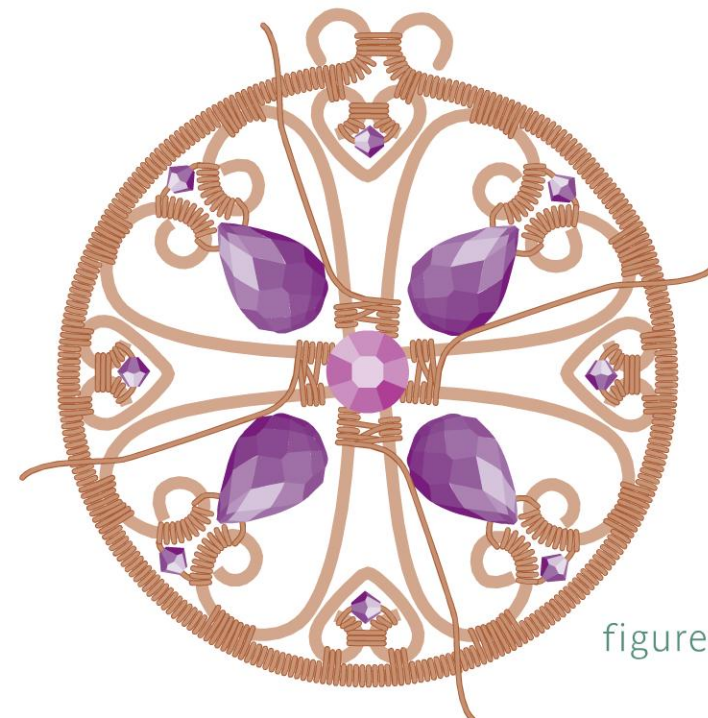

figure 14
- 34** Repeat Step 32 on the second two heart frames (Figure 14).